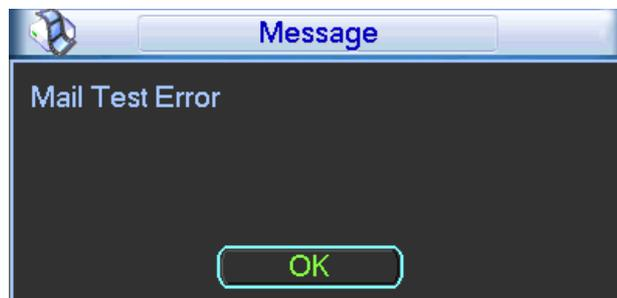

Figure 5-16
- Interval: Please check the above box to enable this function and then set the corresponding interval. System can send out the email regularly as you set here. Click the Test button, you can see the corresponding dialogue box to see the email connection is OK or not. See Figure 5-16.